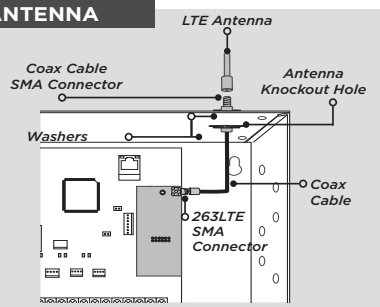

Figure 5: XR and XF6 Series Control Panel
4. Attach the included LTE antenna to the coax cable SMA connector. See Figure 5.